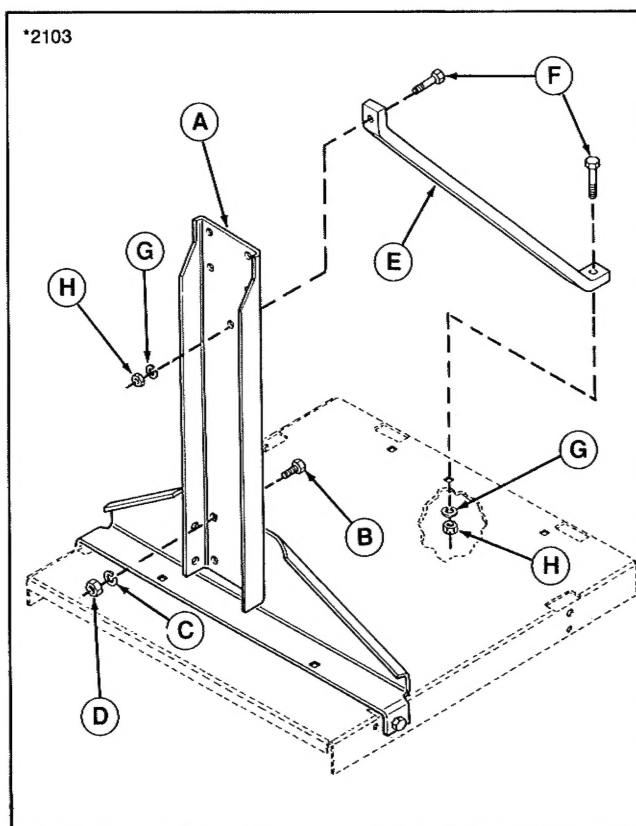

Figure 2.
3. Install upright support (A, figure 2) to platform bracket with four 3/8-16 x 1" capscrews (B, from rear), lockwashers (C), and nuts (D).
4. Install brace (E, figure 2) to upright support with 5/16-18 x 1-1/4" capscrews (F), lockwashers (G), and nuts (H).